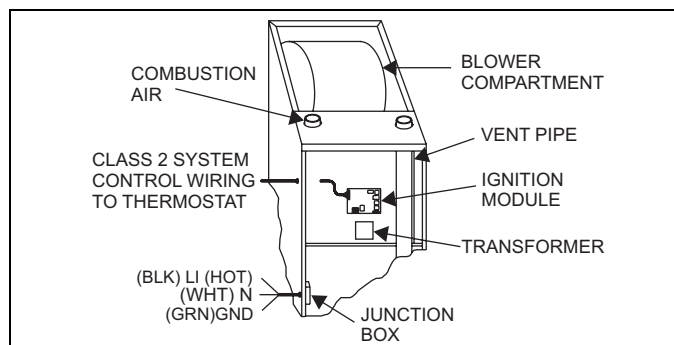

FIGURE 10: Electrical Wiring
2. Remove the screws retaining the junction box cover. Route the power wiring through the opening in the unit into the junction box with a conduit connector or other proper connection. In the junction box there will be three wires, a Black Wire, a White Wire and a Green Wire. Connect the power supply as shown on the unit-wiring label on the inside of the blower compartment door or Figure 10. The black furnace lead must be connected to the L1 (hot) wire from the power supply. The white furnace lead must be connected to neutral. Connect the green furnace lead (equipment ground) to the power supply ground. An alternate wiring method is to use a field provided 2" (5.08 cm) x 4" (10.2 cm) box and cover on the outside of the furnace. Route the furnace leads into the box using a protective bushing where the wires pass through the furnace panel. After making the wiring connections replace the wiring box cover and screws.